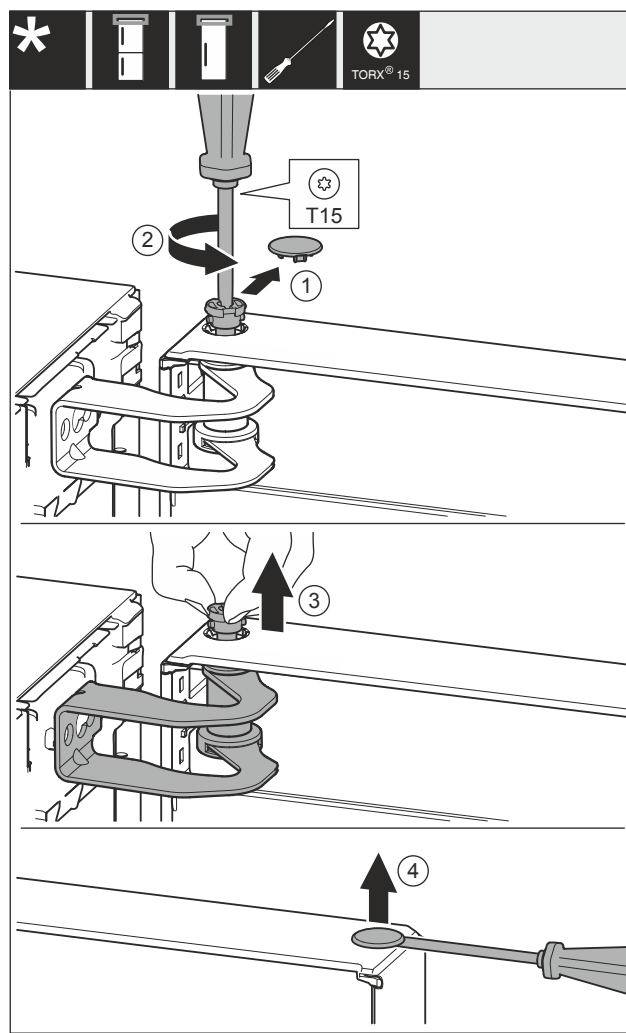

Fig. 27
- ▶ Carefully remove the cover Fig. 27 (1).
- ▶ Use screwdriver to loosen the bolts Fig. 27 (2) a little.
- ▶ Pull out the bolt Fig. 27 (3) with your fingers.
- ▶ Carefully lift and remove the cover Fig. 27 (4) with a screwdriver.